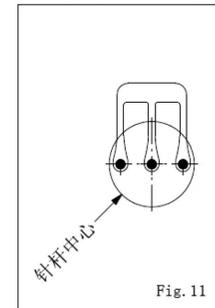

Fig. 11
- (1) 针必须完全装入针榴孔最顶端。
- (2) 经过针棒高度调整后, 必须确定每一根针皆通过针板的针孔正中央, 不可以偏斜, 且三根针需呈平行。(图11)
- (1) Be sure insert the needle into the Needle Holder as far as it can go.
- (2) After the Needle Bar adjustment, please make sure that every needle are passed though the center of the needle hole on the Needle Plate. Beside, the three needles must be in parallel and the gap must be even. (Fig.11)